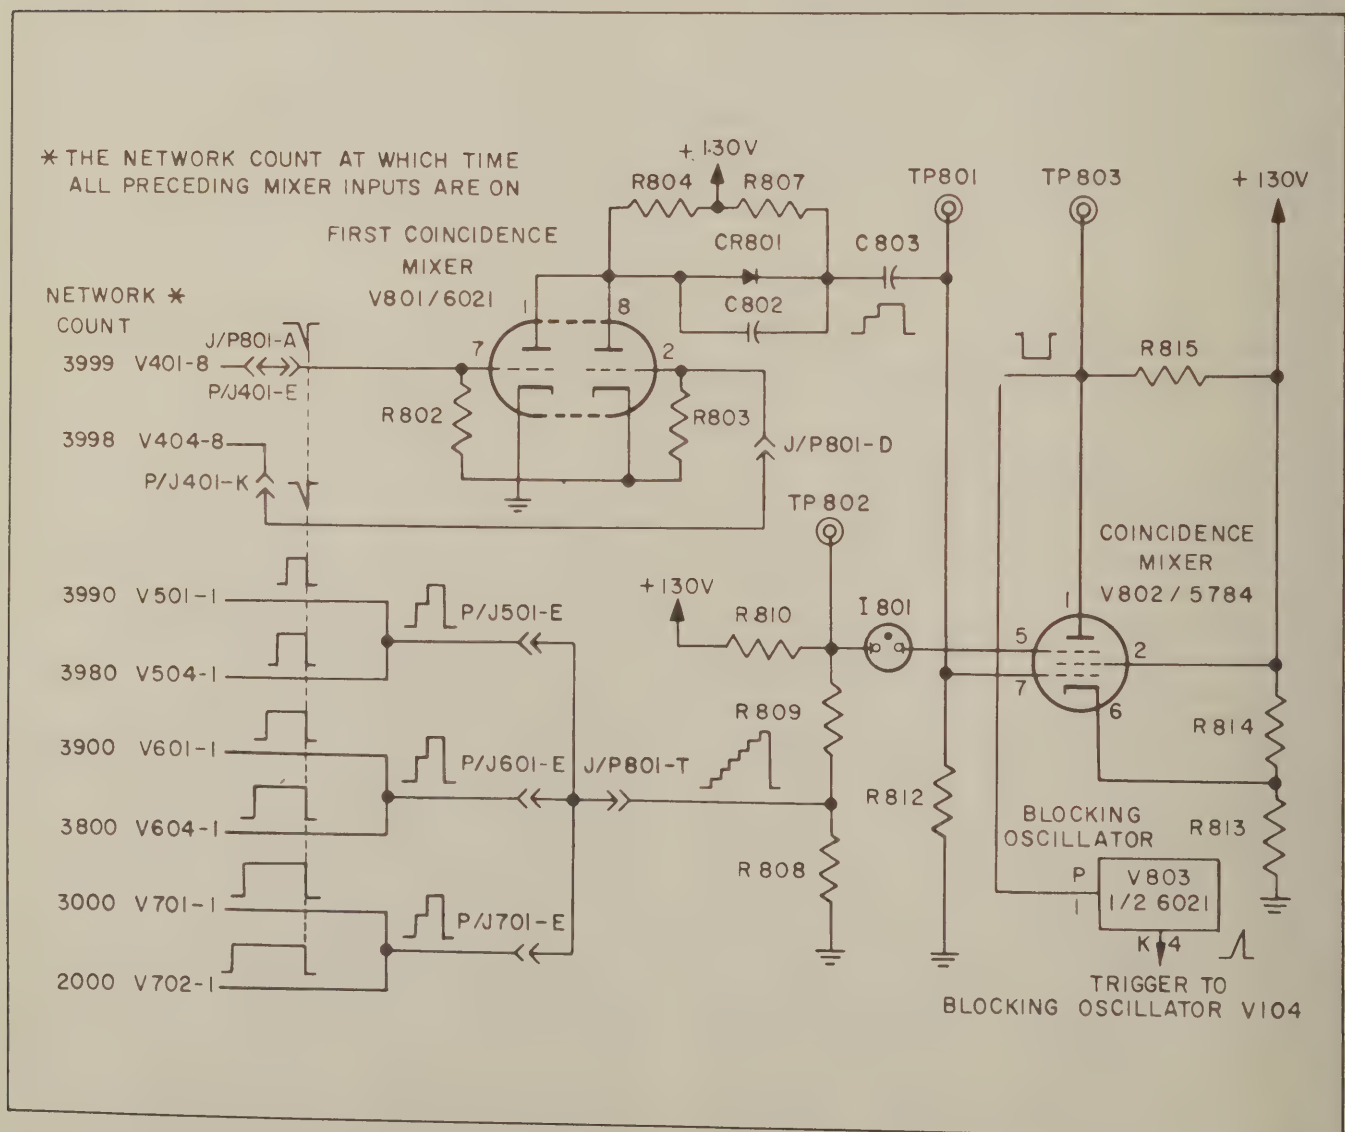

Figure 2-6B. Mixer-Coincidence Circuits, TS-573B/UP
For Range Calibrator TS-573B/UP, refer to figure 2-6B. The suppressor grid of coincidence mixer V802 receives, through neon lamp I801, a composite signal of six positive gates, two each from the B sections of the first and last binary stages in E701, E601, and E501. I801 is biased from the B+ supply so that its ionizing potential is reached when all six positive gates are at coincidence. The two remaining coincidence inputs are negative pulses taken from the first and fourth binary stages of E401 and applied to the control grids of first coincidence mixer V801. When these input pulses are at coincidence, the positive plate output of V801 is of sufficient amplitude to overcome the bias
*e. COINCIDENCE OUTPUTS, TS-573B/UP.* — Reference to figures 2-6B and 5-38B shows that the positive coincidence outputs from E501, E601, and E701 are coupled together, and through terminal T of P/J801, connect to the suppressor grid of coincidence mixer V802 (female board E801). Negative-going pulses from E401 are applied through terminals A and D of P/J801 to the control grids of first coincidence mixer V801. See paragraph 8.A. of this section for a description of female board E801. Crystal diodes (CR511, CR512, CR603, CR606, CR706, and CR707), in series with each coincidence output line, prevent mutual coupling between the coincidence circuits. The variation forward resistance between individual diodes is compensated for by balancing resistors R517 and R617 in the plate circuits of V501 and V601.